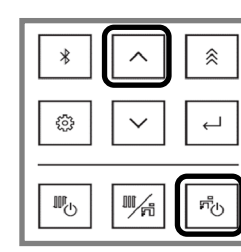

Fig. 9. "Up" and "DHW" Buttons
- Press and hold the "DHW" button for two seconds and then the (Up) button simultaneously (Fig. 9).